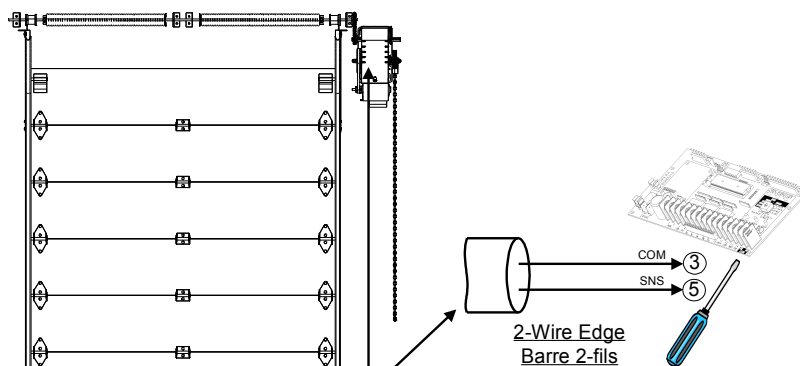

Figure 33 - Electric Reversing Edge
3. Use a coil cord or take-up reel to connect the sensing edge wires to the operator terminals. Install electric wires according to Figure 33.